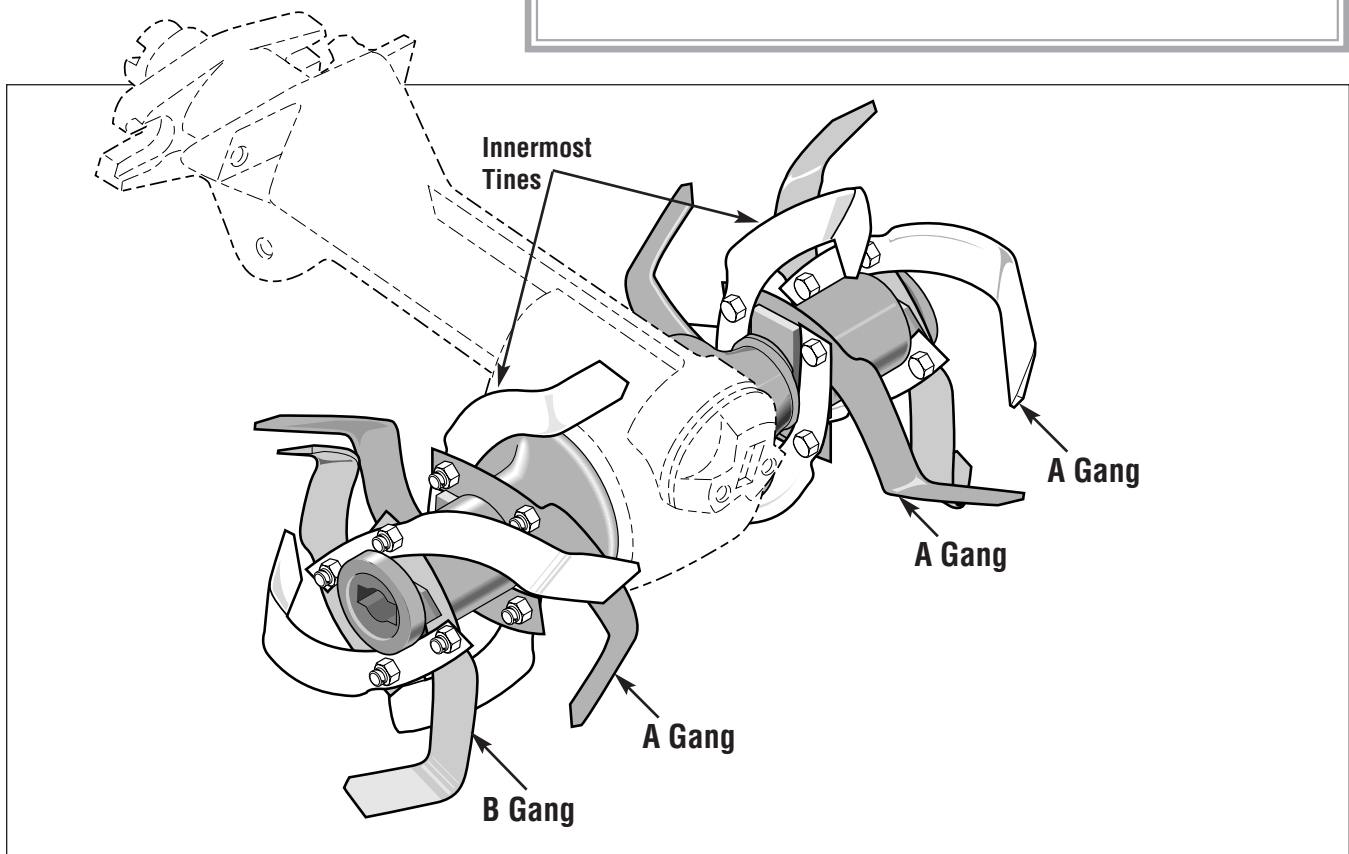

Figure 20: Tines installed on cast iron holders.
E. Install the "B" gang on the left outer holder at position #3 as shown in Figure 20, after following Steps A through C above.
- ☐ Make sure that the tips of the four **innermost** tines (on the left and right sides) are directly **opposite** each other and pointing **toward** each other. See Figure 20.